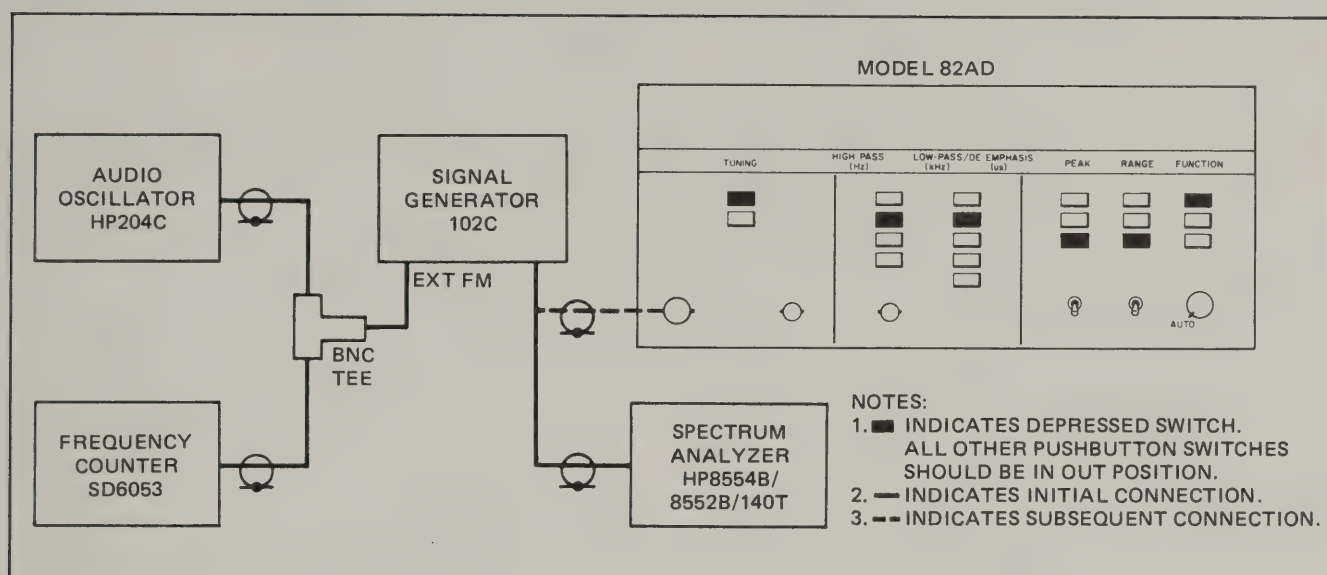

Figure 2-20 Low Pass Audio Frequency Response Check, Test Setup
a. Connect the Model 82AD and test equipment as shown in Figure 2-20.
c. Set the Model 82AD LEVEL control to the AUTO position, and depress the Model 82AD switches indicated in Figure 2-20.